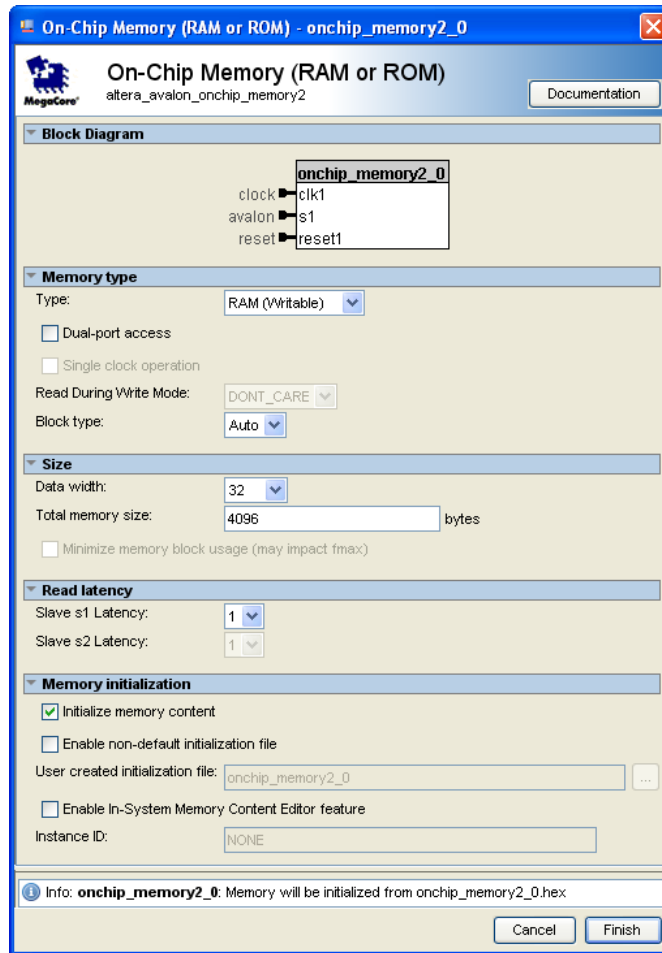

Figure 8. Define the on-chip memory.
- In the On-Chip Memory Configuration Wizard window, shown in Figure 8, set the Data width to 32 bits and the Total Memory Size to ~~4 Kbytes (4096 bytes)~~ **64 KBytes (65536 bytes)**